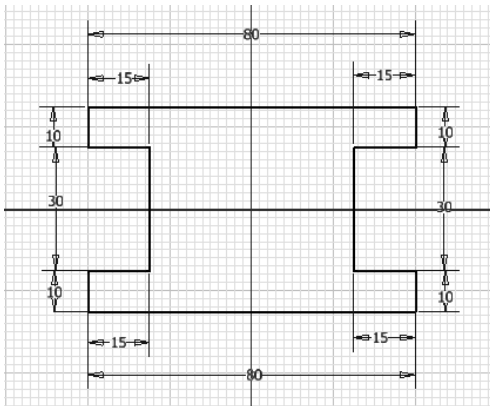

Figure 2-50 Sketch of the outer loop
15. Right-click to display the shortcut menu. Choose **Done** from the shortcut menu to exit the **Line** tool. The sketch of the outer loop is shown in Figure 2-50. You need to arrange the position of dimensions in the sketch by dragging them to view the sketch clearly.
The angular dimensions have not been shown in Figures 2-50 and 2-51 for clarity of sketches. You can control the display of the linear and angular dimensions of the sketch by using the **Sketch** tab of the **Application Options** dialog box. This dialog box is displayed when you choose the **Sketch** tab of the **Application Options** tool from the **Options** panel. Alternatively, choose **Options** from the **Application Menu** to invoke the **Application Options** dialog box. In the **Sketch** tab of the **Application Options** dialog box, choose the **Settings** button; the **Heads-Up Display Settings** dialog box is displayed. Clear the **Create dimensions when inputting dimension value** check box in the **Persistent Dimensions** area of the **Heads-Up Display Settings** dialog box and then choose **OK**. Next, choose the **Apply** and **Close** buttons from the **Application Options** dialog box to turn off the visibility of the dimension during sketching.